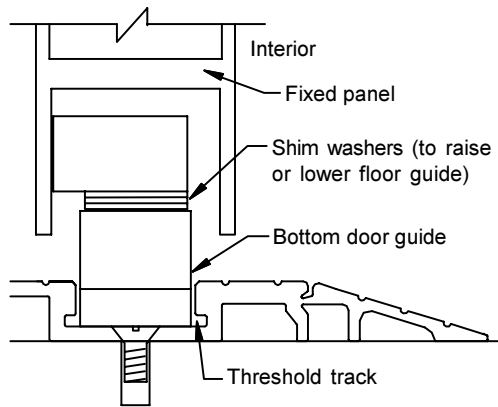

Figure 23. Floor Guide Check
6. Verify that the bottom guide is in the threshold track and slowly slide the door back and forth to assure smooth operation. Check to see if the floor guide is deep enough in the track. It may be necessary to add or remove shim washers as required (**Figure 23**).